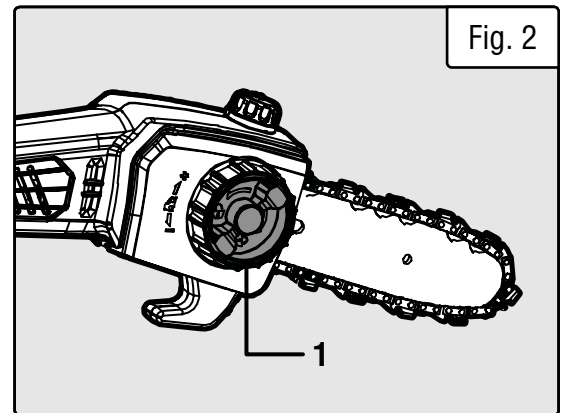

Fig. 2
2. Turn the cover lock knob (Fig. 2 - 1) counterclockwise to remove the cover from the saw's body.
2. Loosen the cover lock knob (Fig. 2 - 1) by turning it a couple of times. Do not loosen the knob completely.